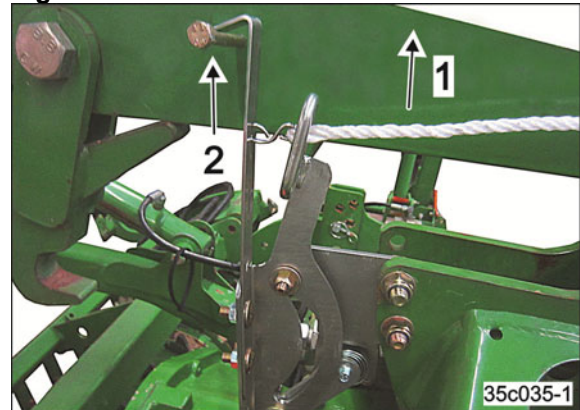

Fig. 96
11. Limit the lift height of the seed drill by inserting the pin (Fig. 96/2) in the required actuation.